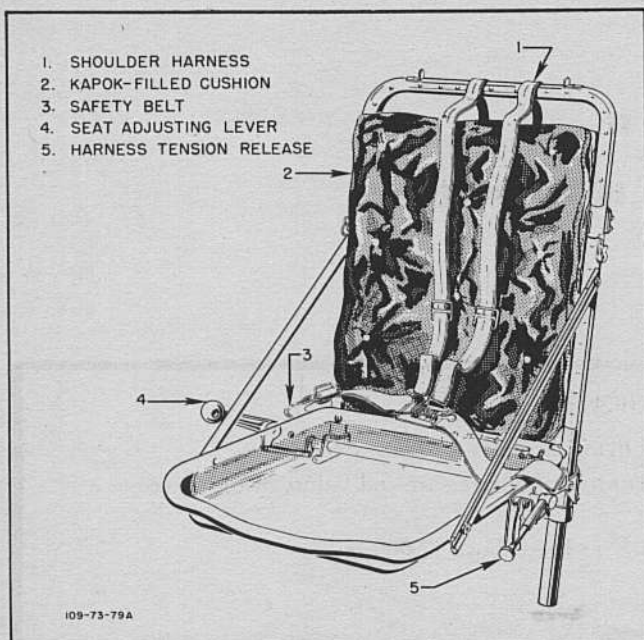

Figure 6—Pilot's Seat
- (2) Adjust seat level to obtain full travel of rudder pedals in extreme positions. Adjustment lever is on right side of seat. (See figure 6.)
- (3) See that ignition switch is "OFF."
- (4) Set parking brakes.
- (5) See that bomb and gun safety switches are "OFF."